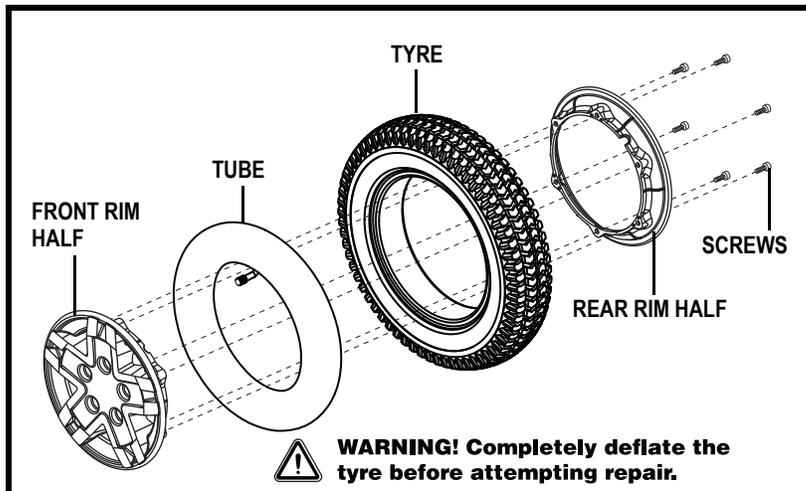

Figure 24. Q6 Edge Drive Wheel Disassembled
6. Remove the screws and separate the front and rear rim. See figure 24.
10. Reinstall the five (5) lug nuts onto the wheel hub and tighten.